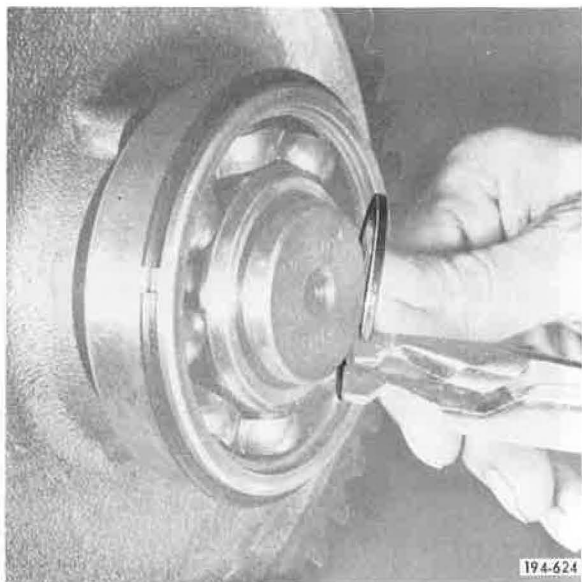

Figure 293. Installing Snap Ring
7. Install front bearing retaining snap ring, using snap ring pliers J-25445 or equivalent. See Figure 293.